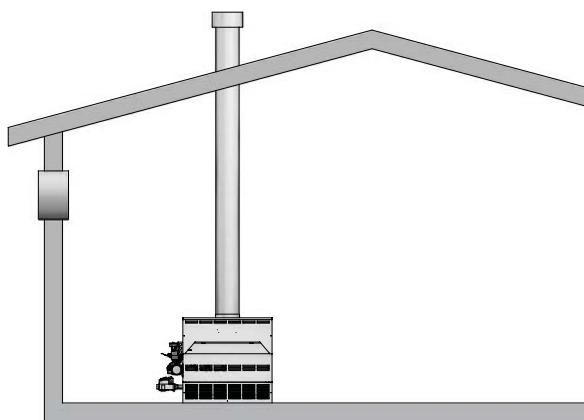

Figure 1-6_Combustion Air from Outside Single Opening
4. If a single combustion air opening is provided to bring combustion air in directly from the outdoors, the opening must be sized based on a minimum free area of one square inch per 3000 Btu/hr (7 cm² per kW). This opening must be located within 12" (30 cm) of the top of the enclosure (see FIG. 1-6).